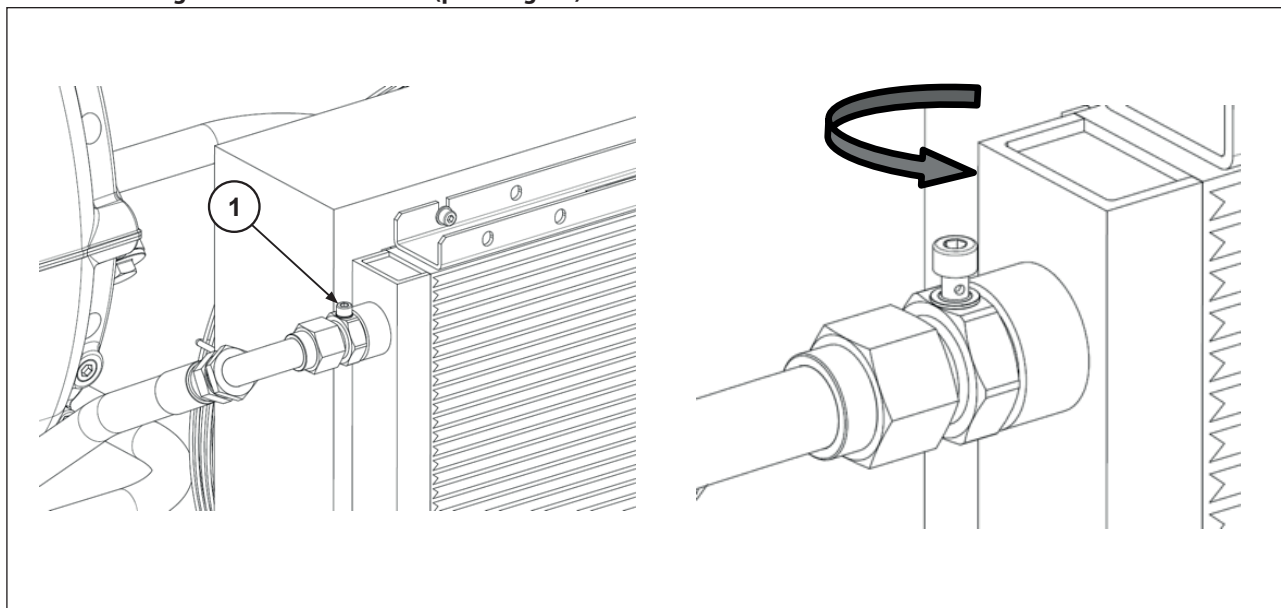

Fig. 24
If no pressure is detected at pressure gauge pos. b after that time, proceed by bleeding air from the circuit by opening the vent screw on the exchanger flow line connection (pos.1 Fig. 24)